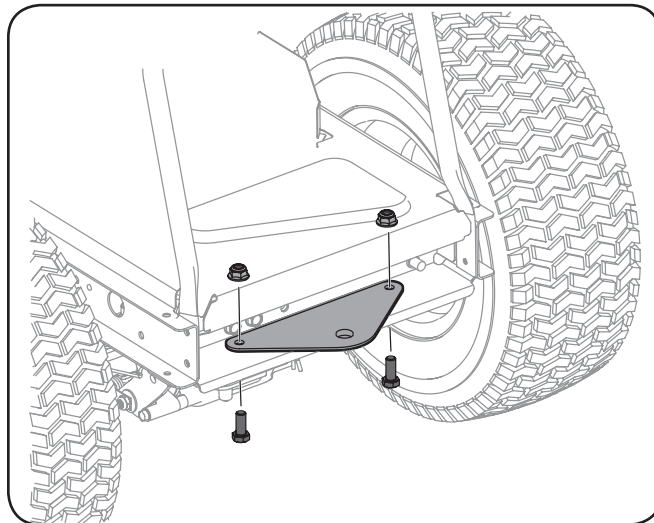

Figure 3-12
2. Position the hitch plate, packed with the loose parts, with the flat side up as shown in Figure 3-12. Secure using the two bolts and hex nuts previously removed.